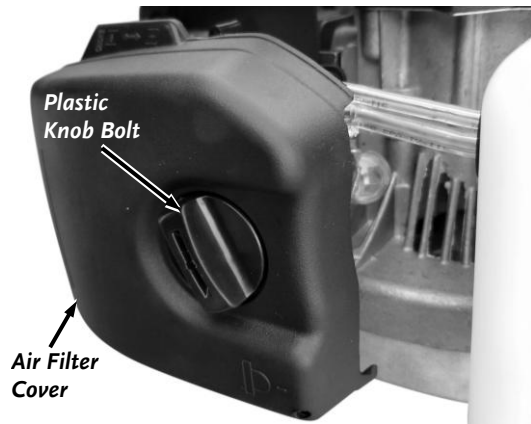

Figure 12
1. Unscrew the Plastic Knob Bolt that secures the Filter Cover and remove the Cover (**Figure 12**).